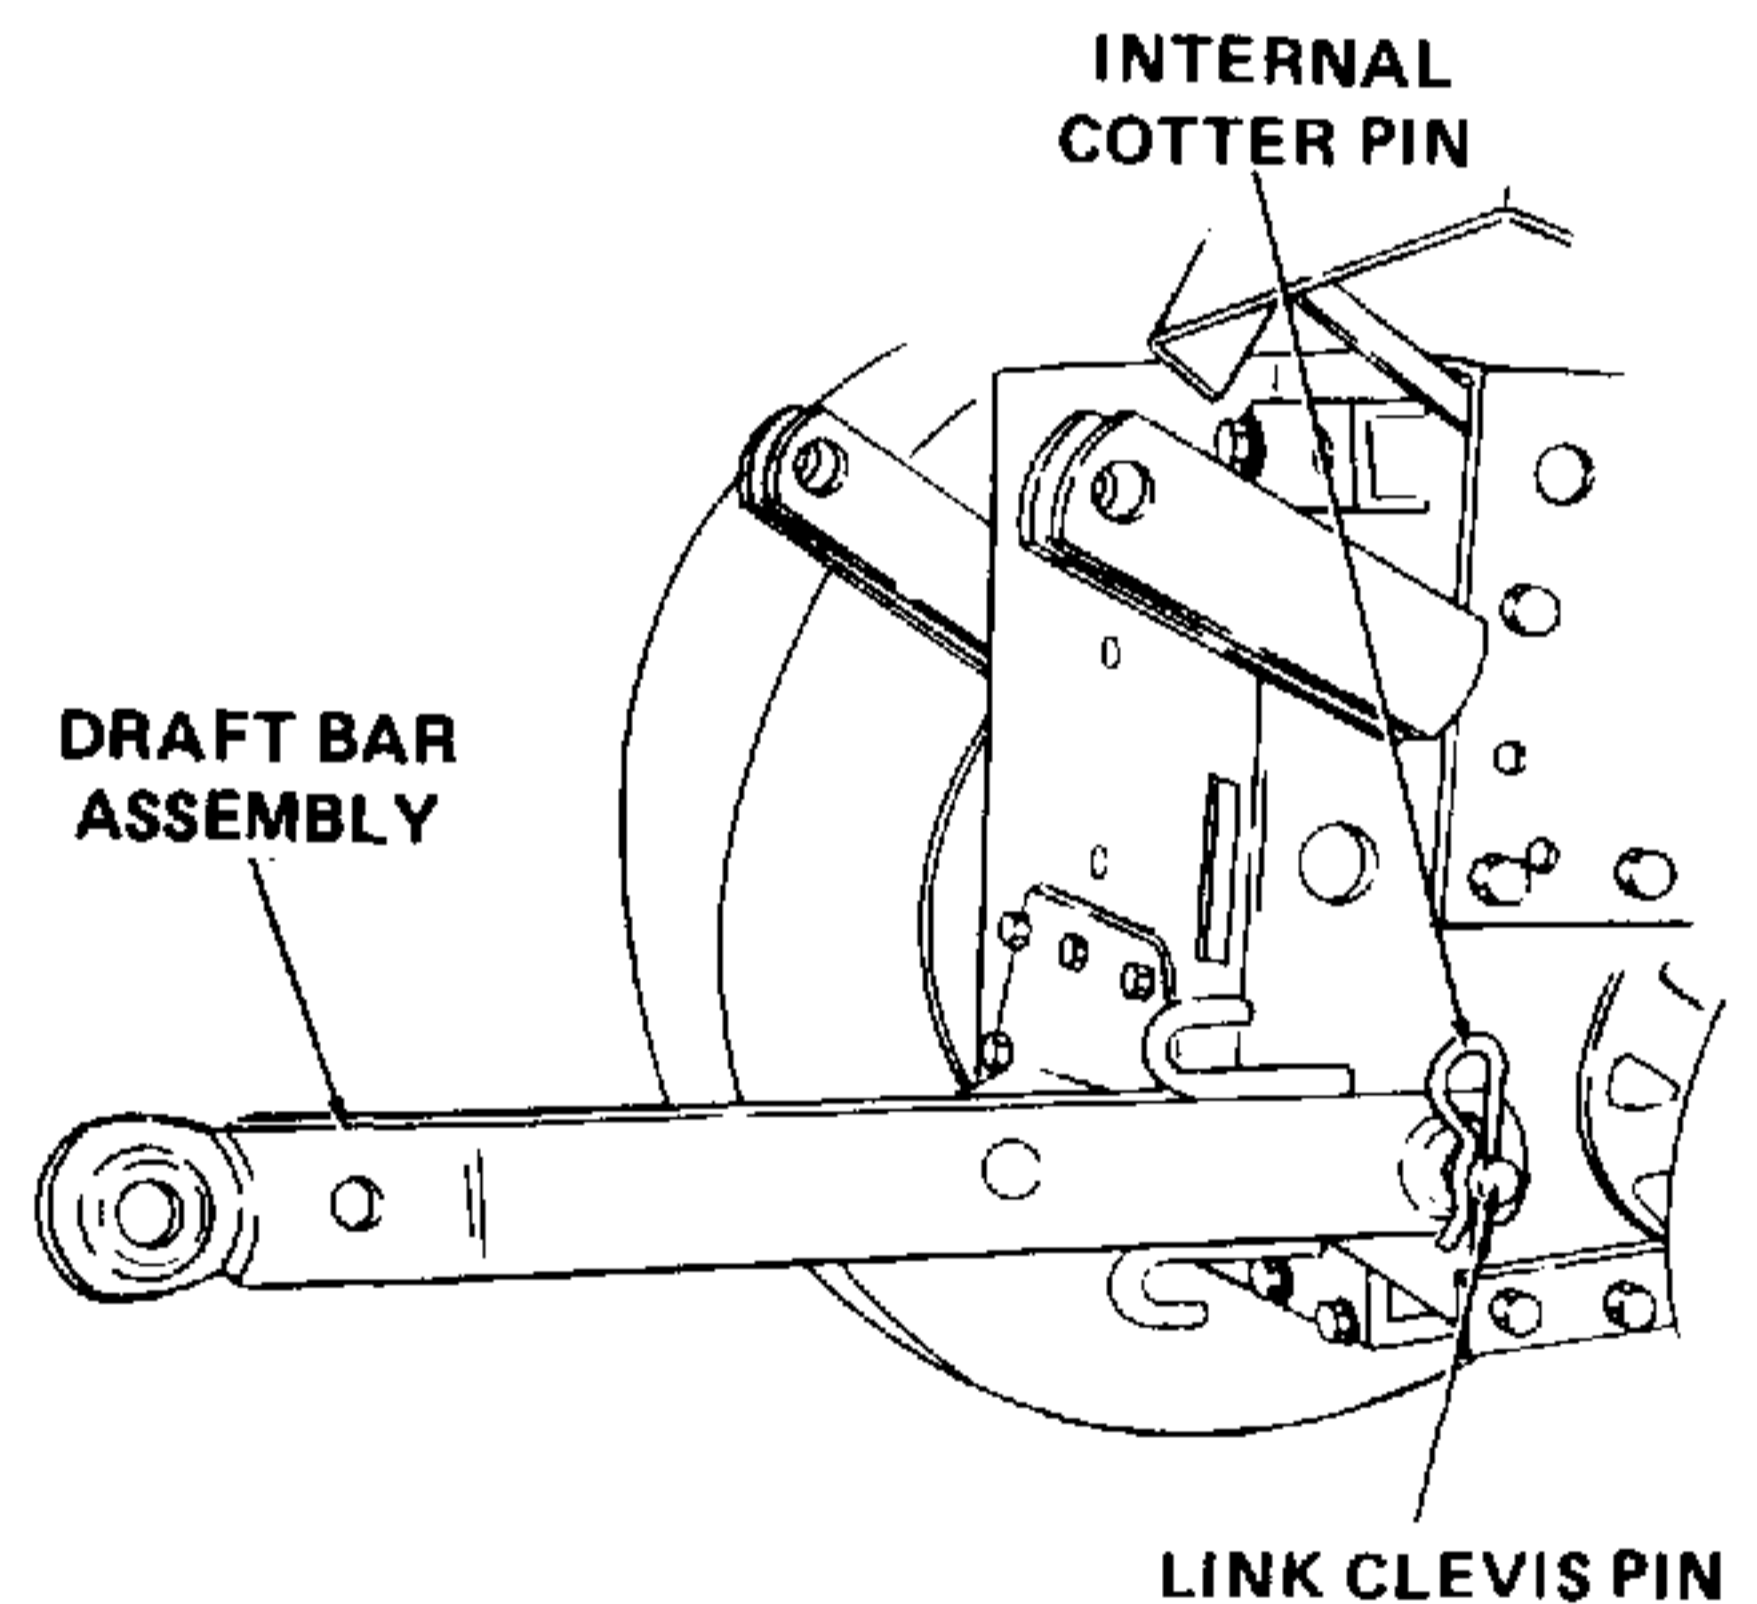

Figure 7-56. Installing Draft Bar Assembly.
7. Install draft bar assemblies (5, Figure 7-41) by positioning them over link clevis pin (3, Figure 7-40) and securing with 5/8-inch internal cotter pin (15). Refer to Figure 7-56.